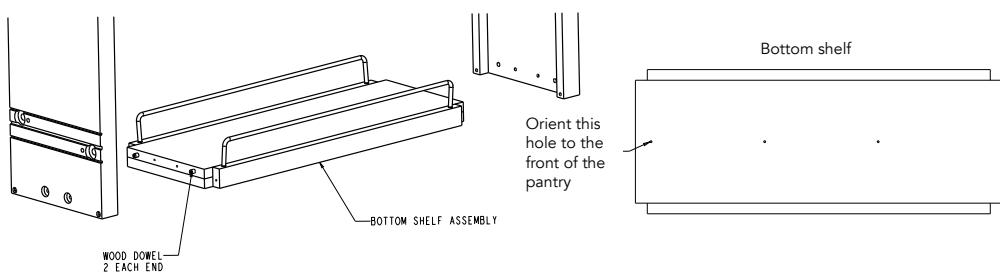

FIG. 2
Install the top shelf, then install the wood rails using (8) dowels (See Fig. 2).